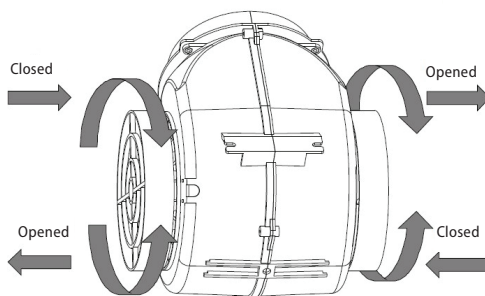

Fig. 2
2. The carbon filters are situated on both sides of the motor. Turn the filters, until they are secured (see Fig. 2).